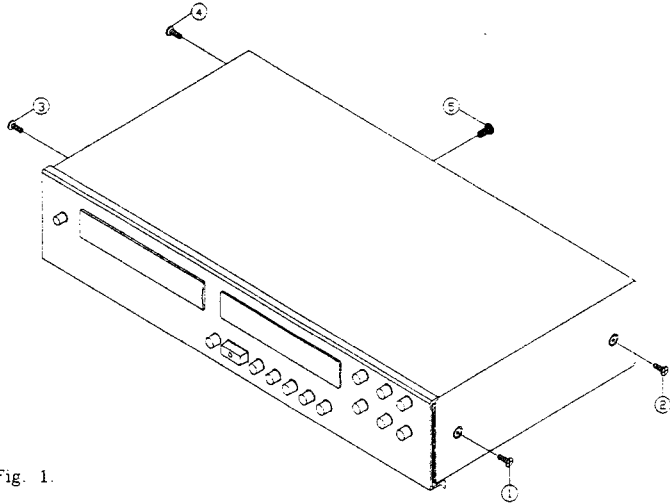

Fig. 1.
- a. ①-④ Machine screw M4.0X6.0 (See Fig. 1.)
- b. ⑤ Tapping screw M3.0X8.0 (See Fig. 1.)